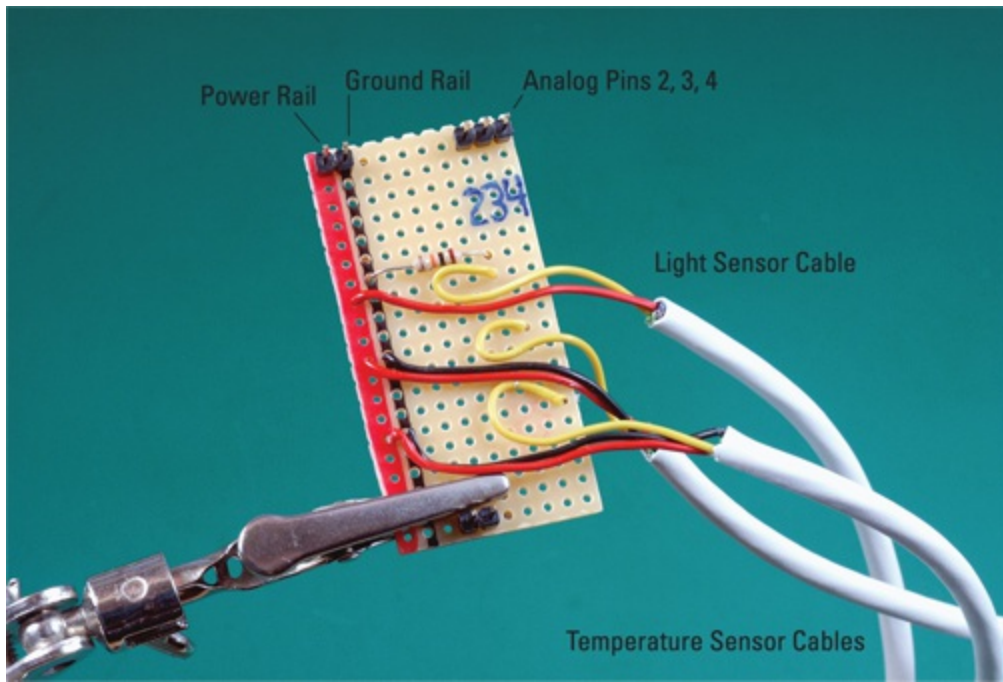

Figure 12-14: Soldering the sensor cables to your sensor shield.
8. Now connect your light sensor to the stripboard. Strip off about 5mm (¼") of insulation from your sensor cable and feed one of its two wires into the leftmost column of holes, which is your power rail. Feed the other wire into the same column as the right side of your resistor, which is connected to the pin that goes into the analog 2 input on your Arduino. It should look like the top cable in Figure 12-14.
10. Connect your temperature sensor cables below your light sensor cable, as shown in Figure 12-14.
12. Solder the signal wires to the columns for analog Pins 3 and 4, respectively. Check Figure 12-14 to make sure that you've soldered your connections correctly.